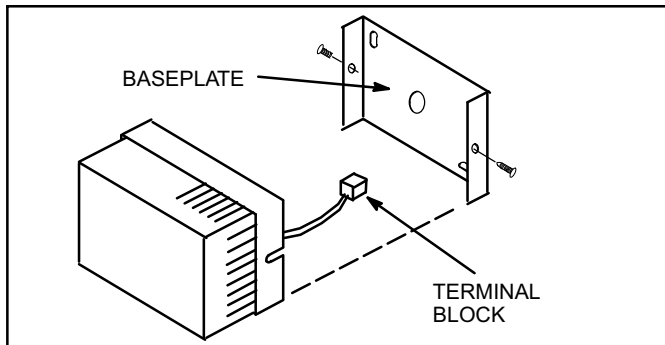

Figure 1. Averaging Sensor
3. Center opening in baseplate over opening in wall. Mark holes for screws (see figure 1). Remove baseplate and drill holes.